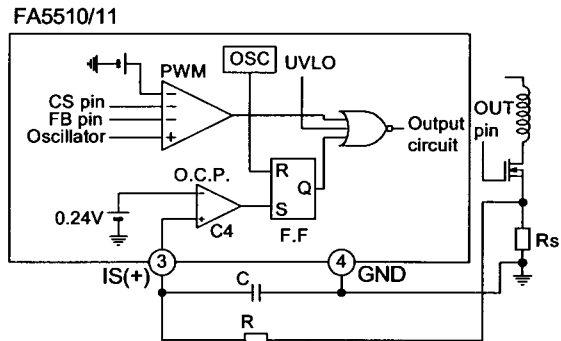
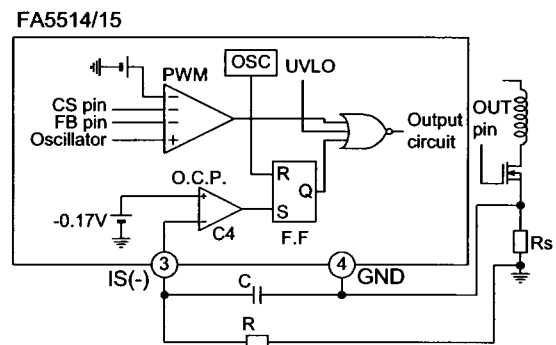
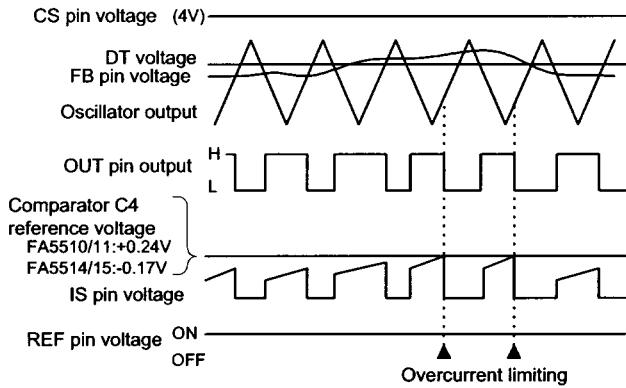

Fig.13 Overcurrent limiting circuit (FA5510/11)
Fig.14 Overcurrent limiting circuit (FA5514/15)
Fig.15 Overcurrent timing chart
(4) Overcurrent limiting circuit
The overcurrent limiting circuit detects the peak value of every drain current pulse (pulse by pulse method) of the main switching MOSFET to limit the overcurrent. The detection threshold voltage is +0.24V for FA5510/11 or -0.17V for FA5514/15 with respect to the ground as shown in Figure 13 and Figure 14. The drain current of the MOSFET is converted to voltage by resistor R_s and fed to the IS pin of the IC. If the voltage exceeds the reference voltage +0.24V (FA5510/11) or -0.17V (FA5514/15) of comparator C4, comparator C4 works to set flip-flop output Q to high. The output is immediately turned off to shut off the current. Flip-flop output Q is reset on the next cycle to turn on the output again. This operation is repeated to limit the overcurrent. If the overcurrent limiting circuit malfunctions due to noise, place an RC filter between the IS pin and MOSFET as shown in Figure 13 and Figure 14. (See item 12 in "Design advice.") Figure 15 is a timing chart that illustrates overcurrent-limiting operations.